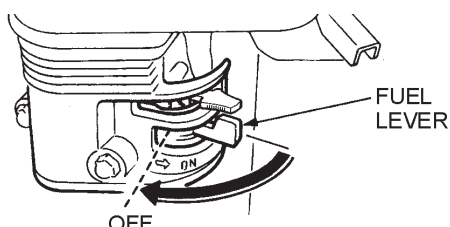

Figure 48. Fuel Valve Lever (Off Position)
4. Place the fuel valve lever (Figure 48) to the **OFF** position.
5. Place the fuel valve lever (Figure 48) to the **OFF** position.